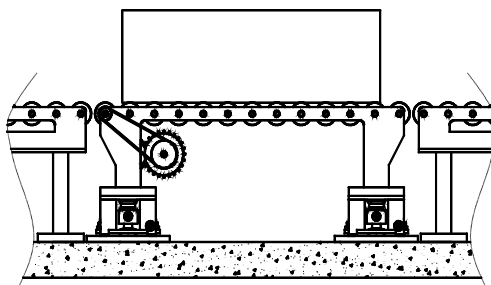

Figure 6-11: Conveyor Scale, Low Speed
- **Conveyor Scale, Low Speed:** Conveyor scales requiring weigh modules with capacities of 7.5t or more are likely to be low-speed applications for which settling time is not critical. Instead of using stabilizers, it is better to let the scale float freely to absorb shocks and restore itself after any horizontal impacts (see Figure 6-11).